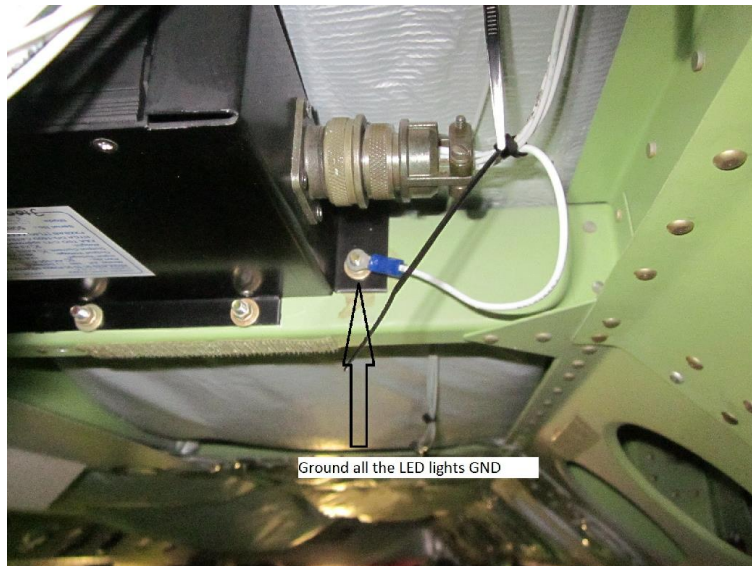

Figure 9 Overhead Panel Ground
- 48. If DC-DC converter is installed in the cabin roof at F.S.66.00 connect lighting grounds (Refer Figure 10 Note 1) to the earth point shown in Figure 9.